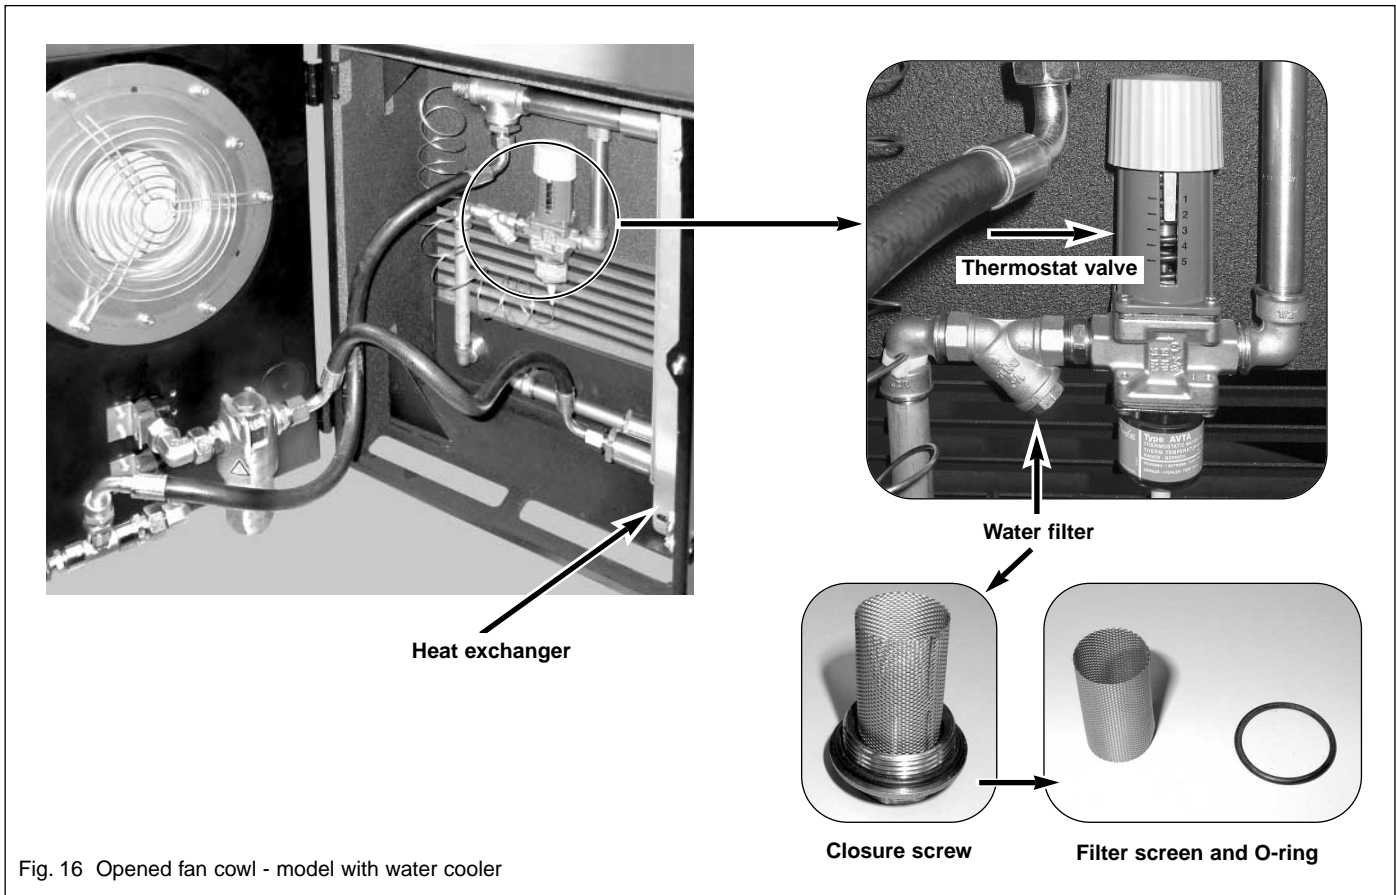

Fig. 16 Opened fan cowl - model with water cooler
- The thermostatic valve (Fig. 16) should be set to 2.5 (factory default) and then close the fan cowl.
During normal operation the oil temperature will be $40\text{ }^{\circ}\text{C} \pm 3\text{ }^{\circ}\text{C}$, provided a setting of 2.5 is used on the thermostat valve (Fig. 16).
The water filter (Fig. 16) should be subjected to maintenance in **regular** intervals. The cleaning intervals will depend on the quality of the cooling water. However, the filter screen (Fig. 16) should be replaced at least once a year.
- Fully open the thermostat valve (Fig. 16); position below 1.